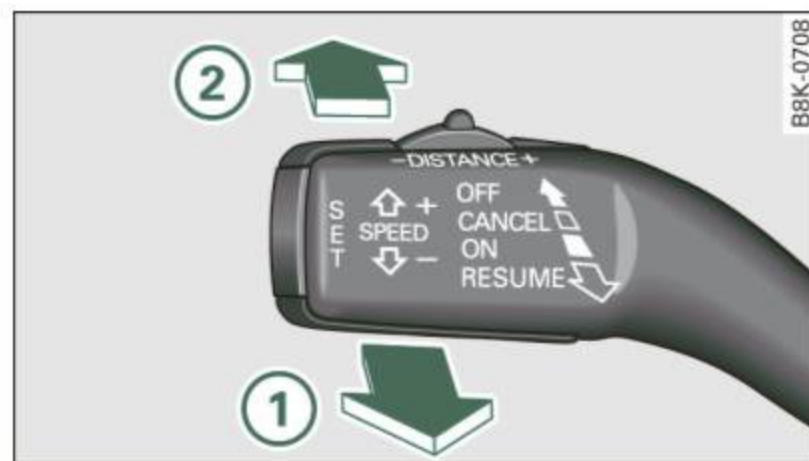

Fig. 126 Control lever: Turning adaptive cruise control off temporarily
- Press the lever in the direction of the arrow  \Rightarrow fig. 126.